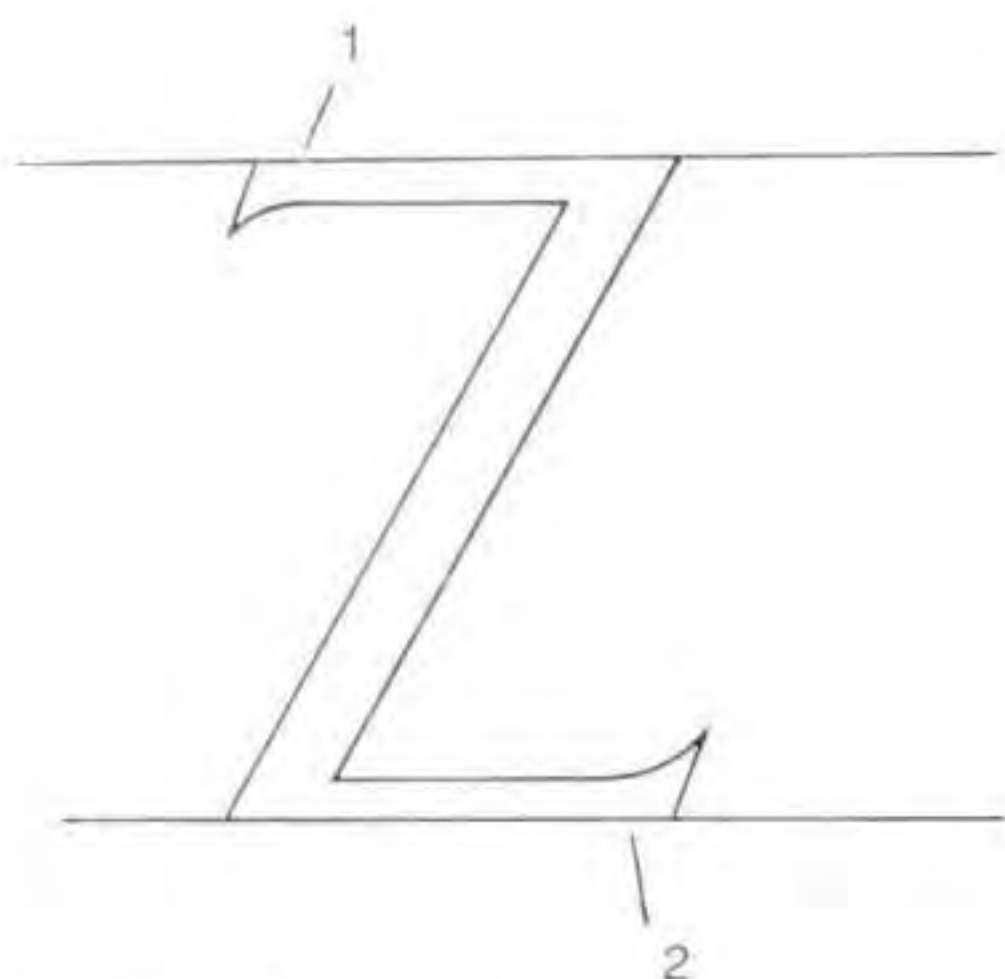

Fig 6.27 Features of the letter Z.
See Fig 6.27. Like N this is a letter which breaks the thick/thin rules. The upper arm should be shortened by a half unit to prevent a sense of it overhanging (1). The serif may point down at right angles or be tilted out a little (as with T) to open the counter.